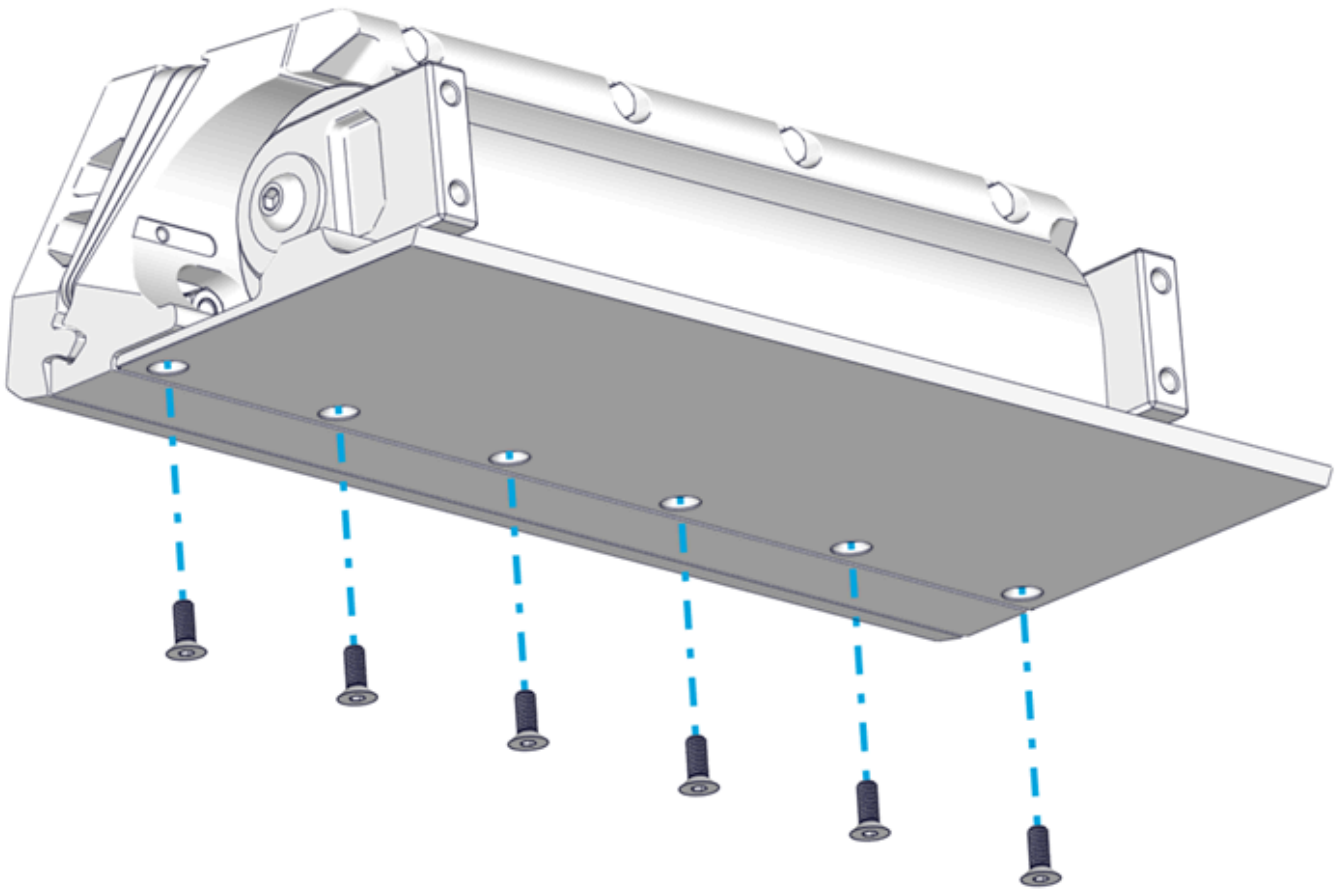

Figure 69 – Bottom Bolts Installation
7. Apply thread locker and insert the bottom six (6) M6-1.0 x 16 mm Torx Flathead Screws. Torque to 80 in-lbs (9 N-m) in an alternating pattern. Repeat the top torquing sequence 2 times or until the bolts do not rotate when achieving the torque (Quantity ten [10] bolts for Dual Controller systems) See Figure 69 – Bottom Bolts Installation.
8. Torque the top four (4) M6-1.0 x 30 mm Hex Head Bolts to 50 in-lbs (5.7 N-m) in an alternating pattern. Repeat the top torquing sequence 2 times or until the bolts do not rotate when achieving the torque. This ensures an even clamping force is applied across the Actuator. (Quantity six (6) bolts for Dual Controller systems).